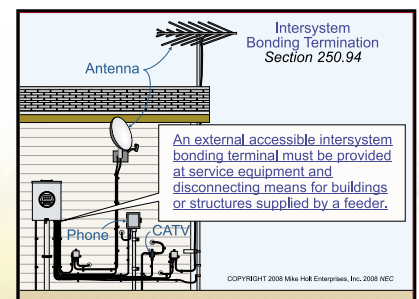

Figure 250-39
An external accessible intersystem bonding terminal for the grounding and bonding of communications systems shall be provided at service equipment and disconnecting means for buildings or structures supplied by a feeder. (See Figure 250-39)
- (1) Terminals listed for grounding and bonding attached to a meter socket enclosure.
- (2) Bonding bar connected to the equipment grounding conductor with a minimum 6 AWG copper conductor.
- (3) Bonding bar connected to the grounding electrode conductor with a minimum 6 AWG copper conductor.
**Author's Comment:** According to Article 100, an intersystem bonding terminal is a device that provides a means to connect communications systems grounding and bonding conductors to the building grounding electrode system. See (See Figure 250-39)